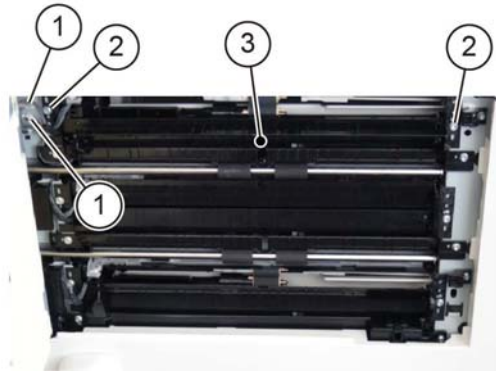

Figure 2 Tray 2 feeder assembly removal
5. Remove the tray 2 feeder assembly, Figure 2:
- a. Disconnect two connectors (1).
- b. Remove two screws (2).
- c. Remove the tray 2 feeder assembly (3).